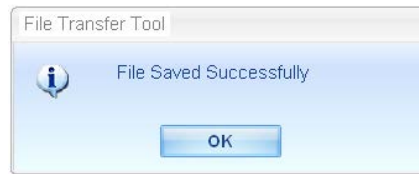

Figure 3-5: Success confirmation dialog
- When the file transfer completes successfully, a pop-up box (Figure 3-5) appears to confirm that the transfer was successful. Dismiss this dialog and return to the **Home** screen by clicking "OK".